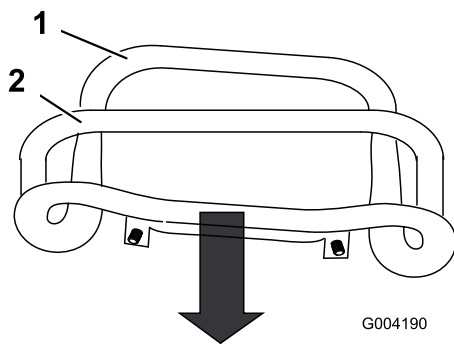

Figure 48
3. Pull back the traction control so that the front of the control contacts the reference bar (Figure 48).